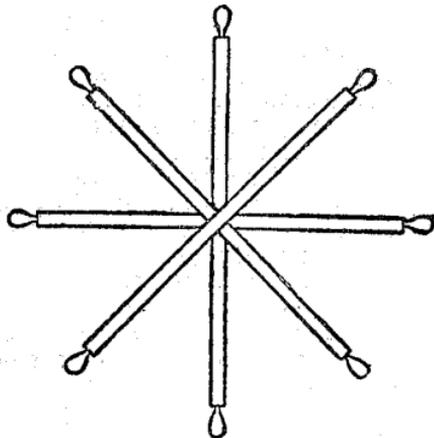

FIG. 127.—Frame of a circular panel.
**A. Identification panels.**—White circular panels 5 yards in diameter are employed to identify divisions and brigades. This is accomplished by means of four strips or slats 3 yards long fastened in the middle by a bolt and terminating in a closed hook. The linen panel has eight rings that are engaged in the hooks. (Fig. 127.)